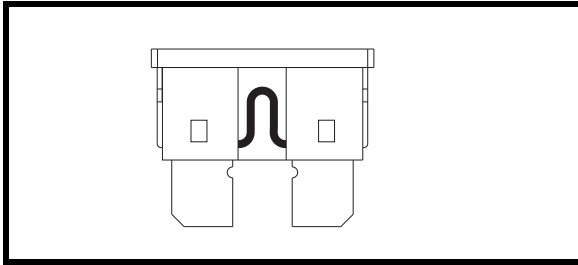

Figure 26. Working Fuse
2. Examine the fuse to be sure it is blown. See figures 26 and 27.